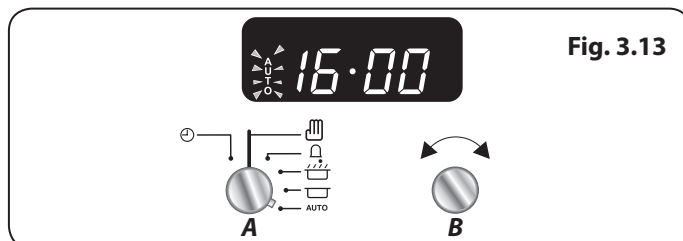

Fig. 3.13
6. When the program starts the oven, the cooking symbol will appear on the display. Once the specified time has elapsed it will emit an alarm and the Multifunction Oven will stop working. The 'Cooking' symbol on the display will disappear and the word 'AUTO' will flash (**Fig. 3.13**).